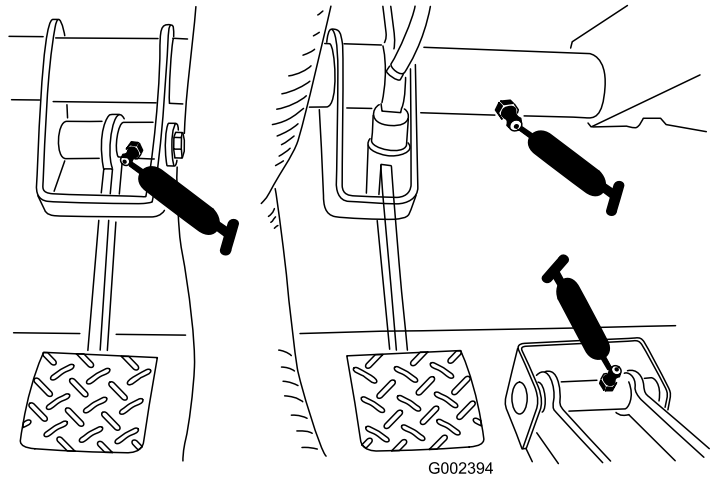

Figure 28
- Brake (1); refer to Figure 28
- Clutch (1); refer to Figure 28
- Accelerator (1); refer to Figure 28